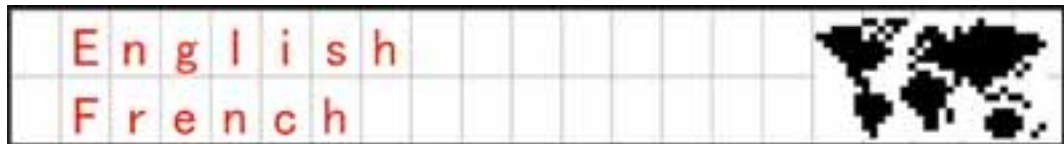

Fig. 3
- Remaining fuel (see fig. 3 on the right-hand side)